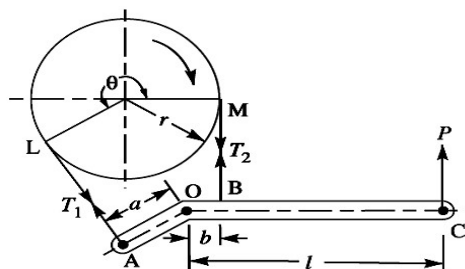

Figure-1
15. a) Design a differential band brake as shown in Figure-1. for a which lifting a load of 20kN through a steel wire rope wound around a barrel of 600mm diameter. The brake drum, keyed to barrel shaft, is 800mm diameter and the angle of lap of the band over the drum is about 240° . Operating arms of the brake are 50mm and 250mm. The length of operating lever is 1.6m. 13 K3 CO6